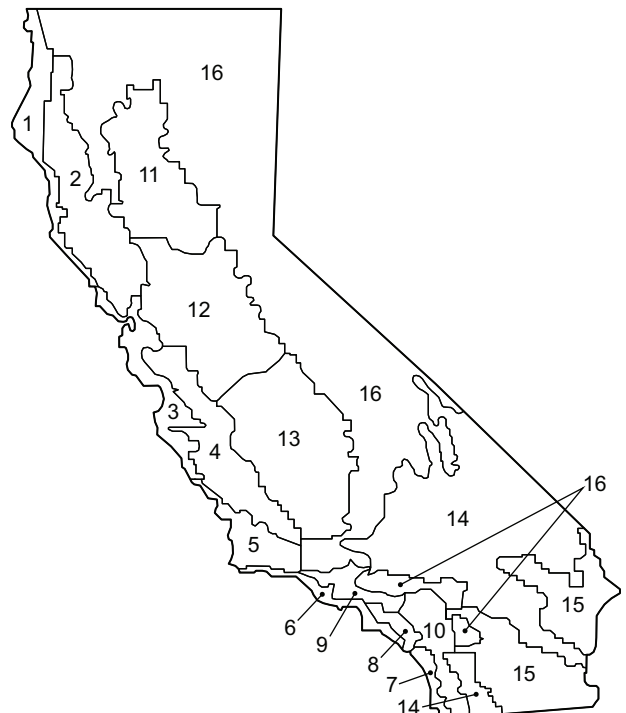

Fig. 97 – California Title 24 Zones
b. See Fig. 97 for map of California Title 24 zones.